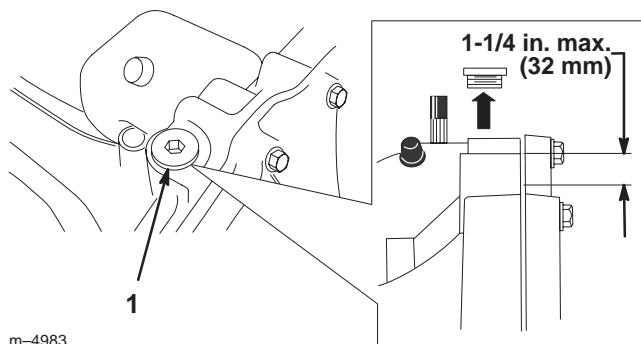

Figure 30
2. Clean around the fill plug (Fig. 30) so that dirt cannot fall into the reservoir if fluid needs to be added.
3. Remove the fill plug and check the fluid level. The level should be a maximum of 1-1/4 in. (32 mm) below the top of the fill port (Fig. 30). Add oil if necessary.